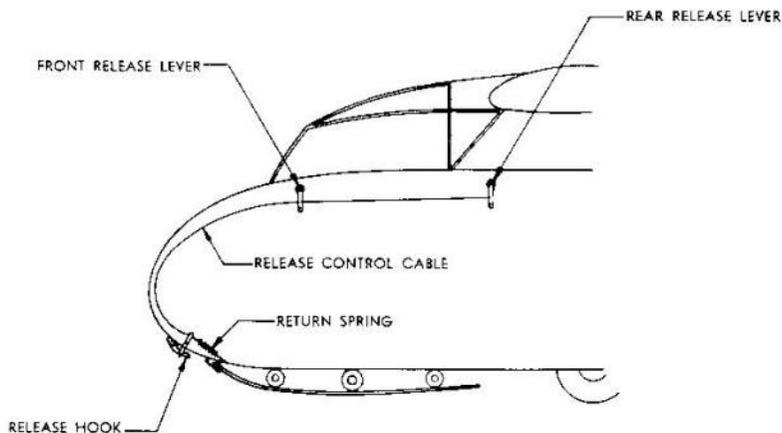

Figure 22 - Release Controls Diagram
f. The release is an automatic cable-type release which disengages when the release levers, located on the left side of each cockpit, are pulled toward the rear. (See figures 22 and 23.)